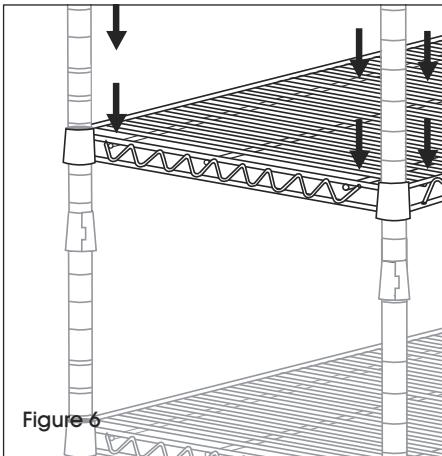

Figure 6
4. Determine the height of the next shelf, snap on supports then add and secure shelf. Repeat Step 4 to add the remaining shelves. (See Figure 6)